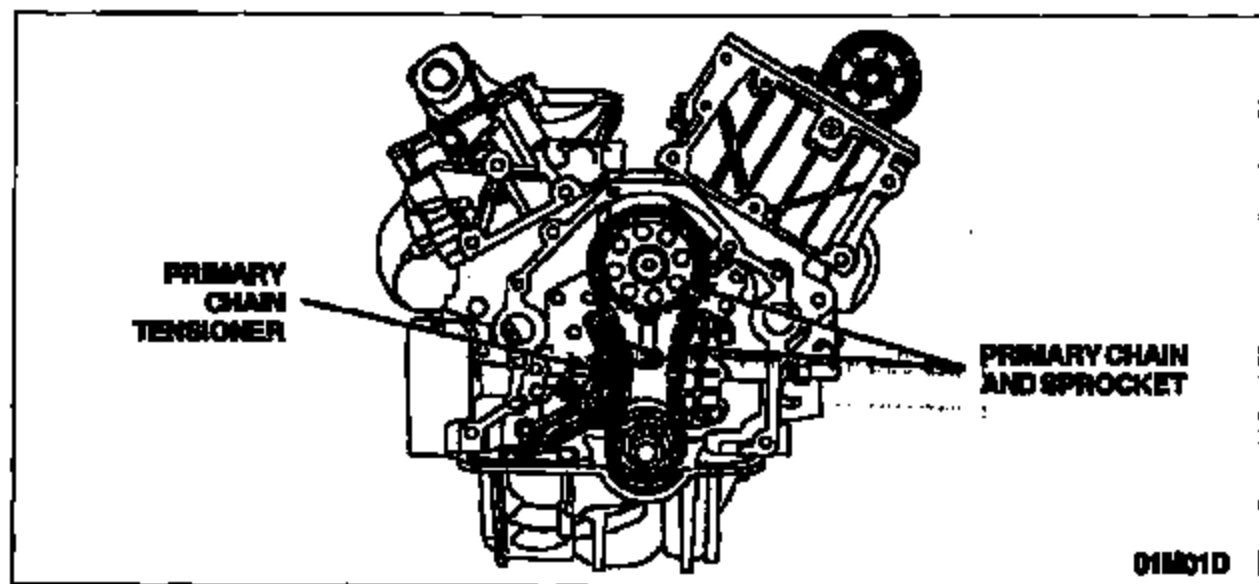

FIGURE 3
10. Remove the primary chain tensioner. See Figure 3.
11. Remove the primary chain, jackshaft sprocket and crankshaft sprocket. See Figure 3.